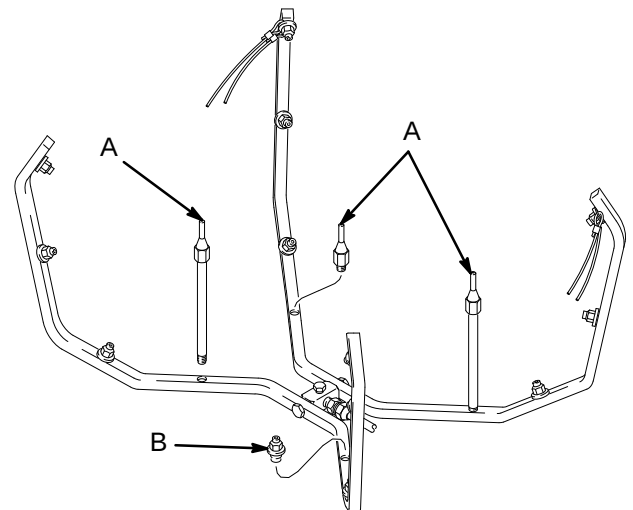
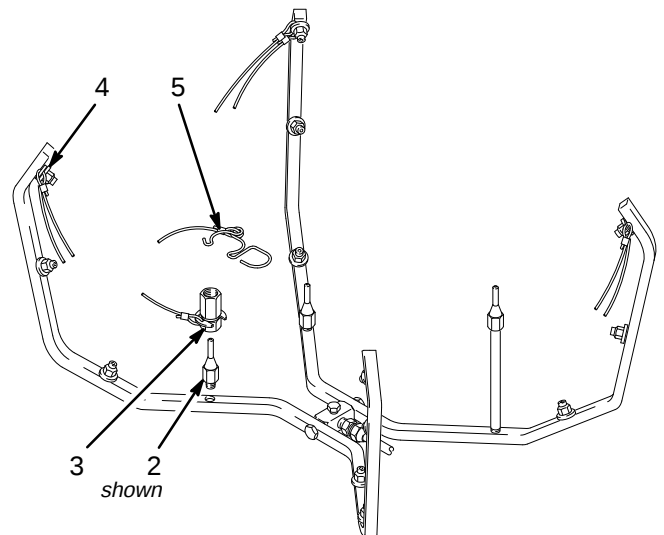

Fig. 1
Fig. 2
3. Remove a gun support (A) or spray nozzle (B) from one of the four cleaning stations. See Fig. 1.
4. Screw the gun support (1 or 2) supplied with the kit into the 1/8" npt hole. See Fig. 2.
5. If the gun support (1 or 2) replaced a spray nozzle (B—See Fig. 1), install the trigger lock (5) and fluid inlet adapter (3) to use with the fourth gun station. See Fig. 2. Place the wire loops on the snap ring (4) and snap it around an open spray nozzle.